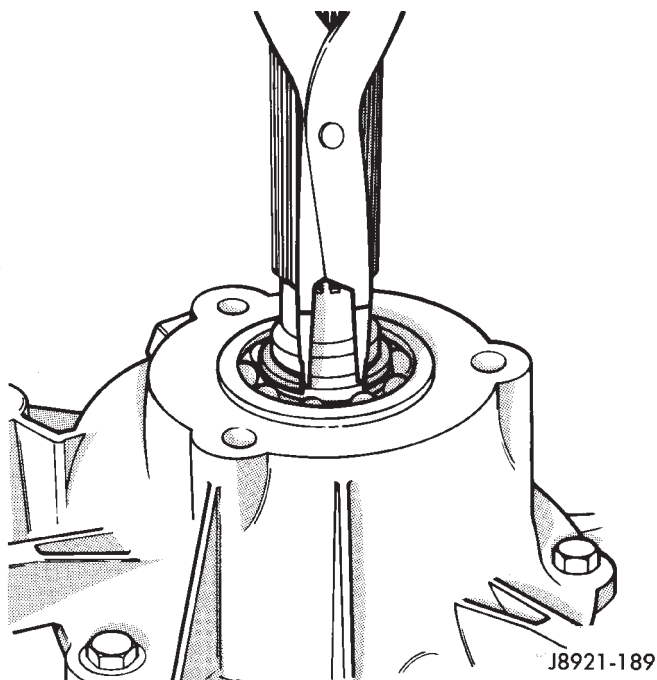

Fig. 7 Removing Rear Bearing Snap Ring
- (6) Remove rear bearing snap ring from mainshaft (Fig. 7). Discard snap ring.